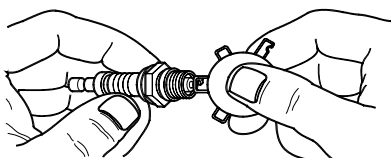

Figure 4-4. Spark Plug
3. Inspect electrode gap with wire feeler gauge and reset spark plug gap to 0.020 in (0.51 mm). See Figure 4-4.